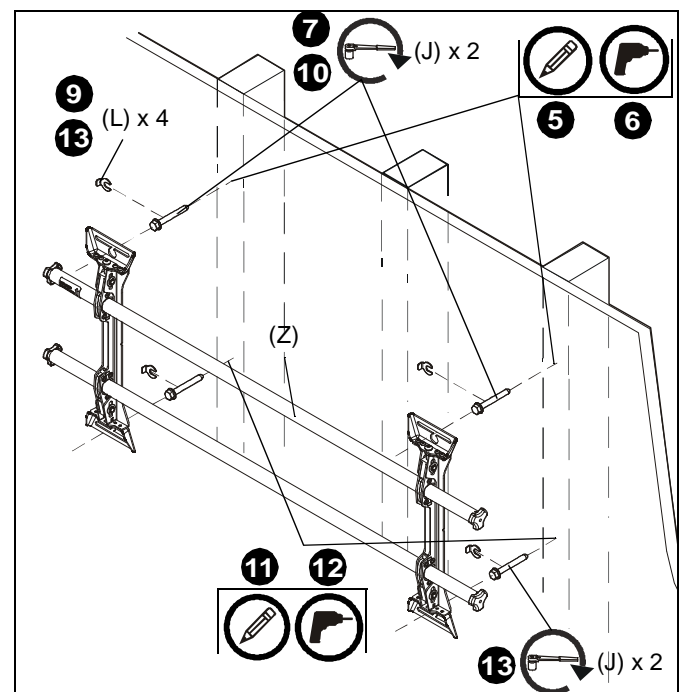

Figure 2
5. Using a level, mark the wall on each stud to attach the mount through the upper mounting slots. (See Figure 2)
7. Partially install two 5/16 x 2-1/2" flanged lag bolts (J) into pilot holes but do not tighten to wall.
8. Hang mount (Z), aligning upper mounting slots over lag bolts and adjust side-to-side for proper location.
9. Place one slotted washer (L) over each flanged lag bolt. (See Figure 2)
10. Tighten lag bolts to secure mount (Z) to wall at upper mounting slots.
11. Mark the attachment points for the lower mounting slots, making sure the attachment points are located on the studs. (See Figure 2)
12. Drill 7/32" (5.5mm) pilot holes at markings for lower mounting holes. (See Figure 2)
13. Use two 5/16 x 2-1/2" flanged lag bolts (J) and two 5/16" slotted washers (L) to attach the mount to the wall through the lower mounting holes. (See Figure 2)